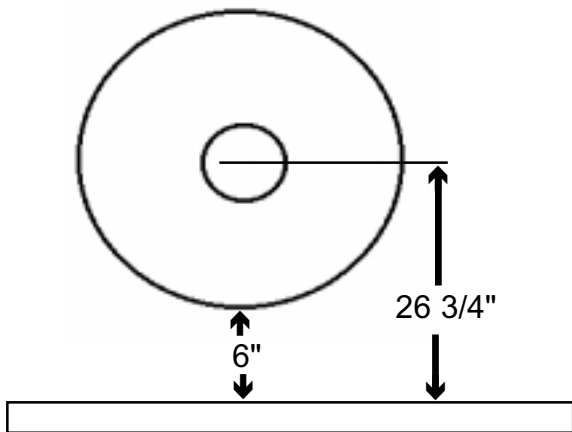

Figure 1
The minimum clearances from the appliance to combustibles are shown on figures 1 and 2. Place the appliance on a flat, solid, continuous surface (i.e. wood, tile, concrete, metal). This unit does not require a hearth or other type of floor protection.
- 1. Position unit to comply with the minimum clearances to combustible materials. Minimum clearances are shown in figures 1 and 2. It is recommended that no overhead cross members in the ceiling or roof be cut. Reposition unit if necessary, being careful not to move closer than the minimum clearances.**